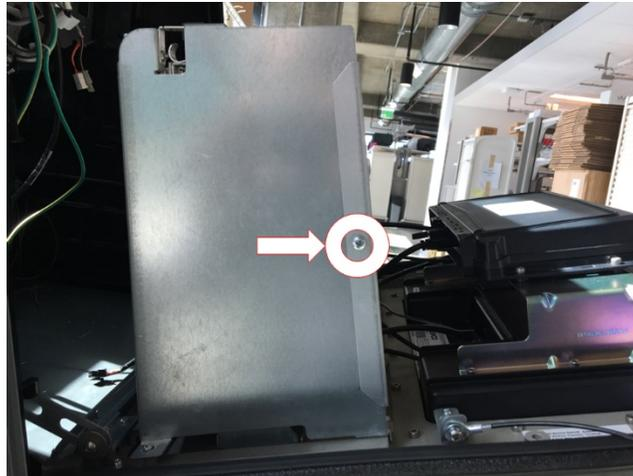

Figure 211
22) Remove and discard the M4 screw that secures the other side of the printer lid to the printer chassis. See Figure 211.